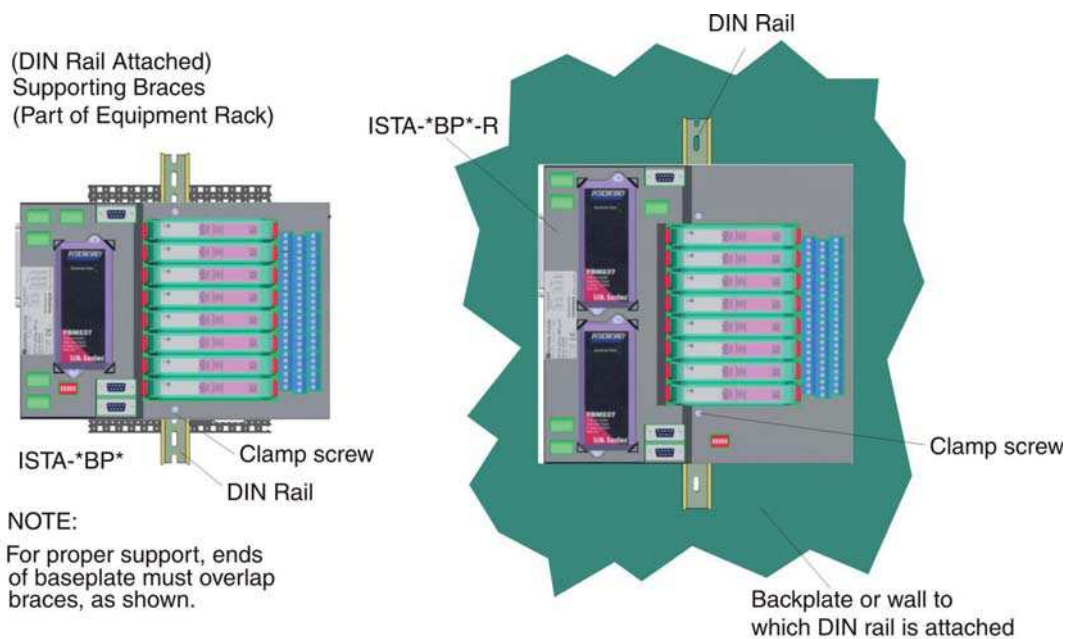

Figure 3-1. Required Support for ISTA-*BP* with Horizontal DIN Rail Mounting
As illustrated in Figure 3-1 mechanical support is required for DIN rail mounting of ISTA-*BP*. This support, required for all mounting configurations of ISTA-*BP*, can be in the form of metal braces, a backplate, or a wall. The added support prevents unnecessary movement or twisting motion of the DIN rail/ISTA-*BP* combination.
3. Align the ISTA-*BP* on the DIN rail and fasten it in place on the DIN rail with the two clamp screws on top of the Baseplate. See Figure 3-1.